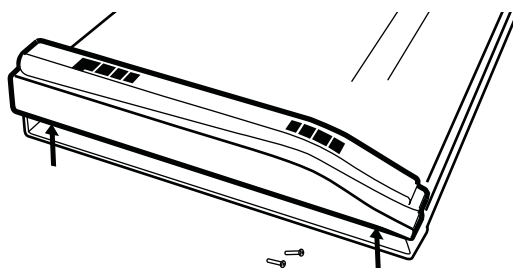

Figure 2-4 Removing connecting part and side panel
2. Lift the black plastic connecting part and side panel up and out of the MC Mix (Figure 2-4).